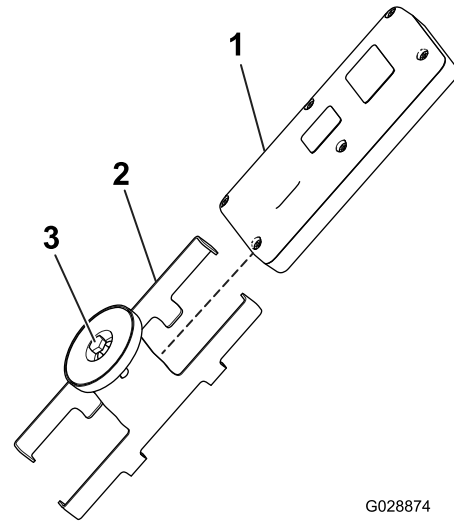

Figure 19
5. Install the handheld remote into the magnetic remote bracket, slide the halves together to secure the remote, and tighten the bolt in the magnet (Figure 19).